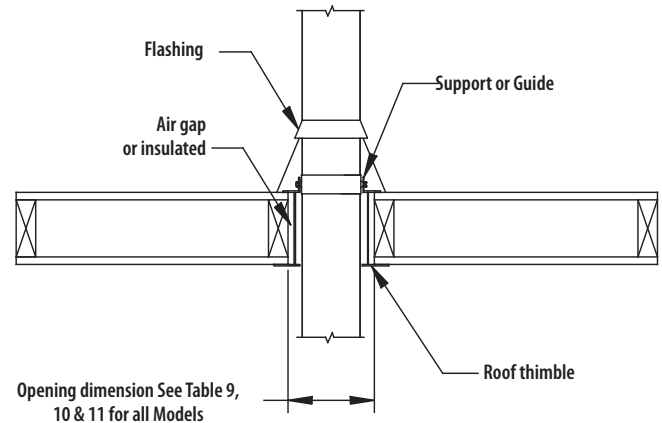

Figure 3 - Roof penetration
1. A roof thimble (RT) or roof thimble insulated (RTI) for cold climate must be installed every time the vent system passes through a floor or roof.
3. Install the roof thimble. You may cut the radiation sleeve if it is too long. See **Figure 3**.